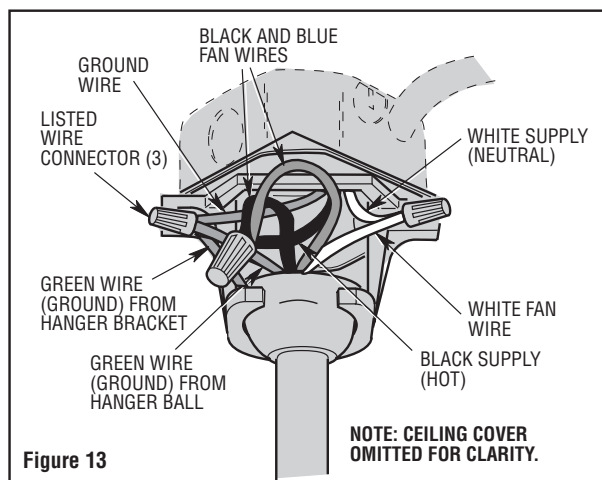

Figure 13
1. Connect the green grounding lead from the hanger ball and the green grounding lead from the hanger bracket to the grounding conductor of supply (this may be a bare wire or wire with green colored insulation). Securely connect wires with wire connectors supplied. (Figure 13.)
2. Securely connect the fan motor white wire to the supply white (neutral) wire using wire connector supplied (Figure 13). Securely connect the fan motor black wire and blue wire to the supply black (hot) wire using wire connector supplied (Figure 13). After connections have been made, turn leads upward and carefully push leads into the outlet box, with the white and green leads on one side of the outlet box and the black and blue leads on the other side of the outlet box.